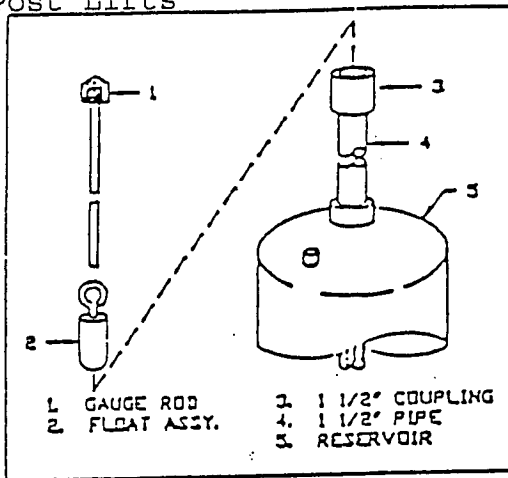
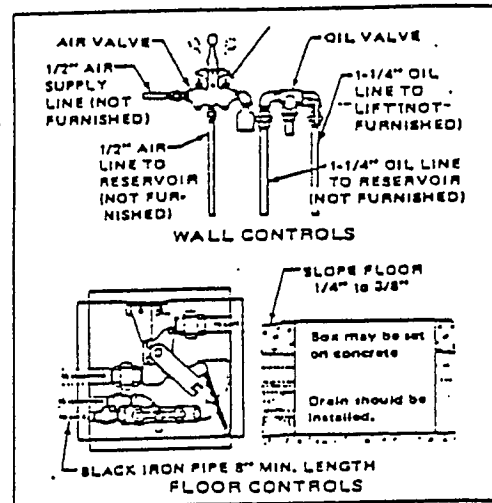

Fig. 3 Oil Reservoir Components
Fig. 4 Control Valve Piping
2. INITIAL OIL FILL: Plungers should be in fully lowered position; use only NEW oil that meets the specifications as listed in table 1. Place air control in the EXHAUST position. Refer to Fig. 4. With gauge rod (1) and float assembly (2) removed, refer to Fig. 3, fill reservoir with oil (a portion of the approx. 40 gallon required cannot be added until the completion of installation). Insert float assembly. Next, insert and tighten gauge rod assembly.